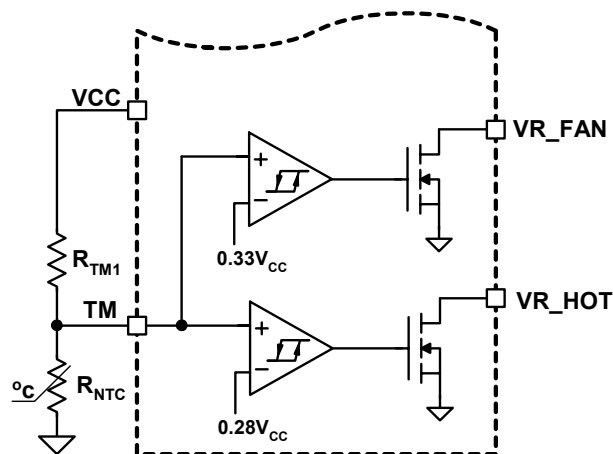
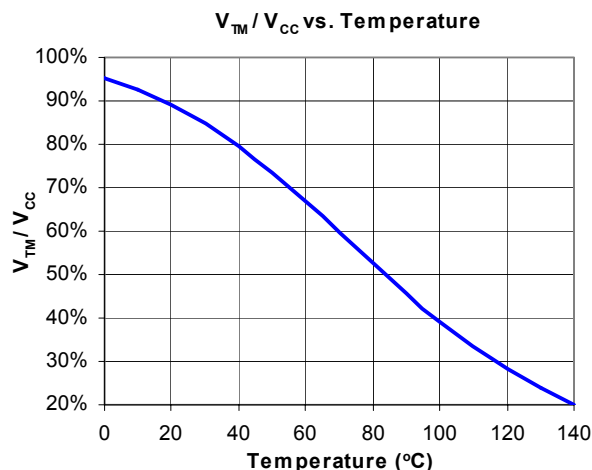

FIGURE 15. BLOCK DIAGRAM OF THERMAL MONITORING FUNCTION
FIGURE 16. THE RATIO OF TM VOLTAGE TO NTC TEMPERATURE WITH RECOMMENDED PARTS
The diagram of thermal monitoring function block is shown in Figure 15. One NTC resistor should be placed close to the power stage of the voltage regulator to sense the operational temperature, and one pull-up resistor is needed to form the voltage divider for TM pin. As the temperature of the power stage increases, the resistance of the NTC will reduce, resulting in the reduced voltage at TM pin. Figure 16 shows the TM voltage over the temperature for a typical design with a recommended 6.8k Ω NTC (P/N: NTHS0805N02N6801 from Vishay) and 1k Ω resistor RTM1. We recommend using those resistors for the accurate temperature compensation.
Based on V_{CC} voltage, ISL6307B converts the TM pin voltage to a 6-bit TM digital signal for temperature compensation. With the non-linear A/D converter of ISL6307B, TM digital signal is linearly proportional to the NTC temperature. For accurate temperature compensation, the ratio of the TM voltage to the NTC temperature of the practical design should be similar to that in Figure 16.
Depending on the location of the NTC and the air-flowing, the NTC may be cooler or hotter than the current sense component. TCOMP pin voltage can be utilized to correct the temperature difference between NTC and the current sense component. When a different NTC type or different voltage divider is used for the TM function, TCOMP voltage can also be used to compensate for the difference between the recommended TM voltage curve in Figure 16 and that of the actual design. According to the V_{CC} voltage, ISL6307B converts the TCOMP pin voltage to a 4-bit TCOMP digital signal as TCOMP factor N.
1. Properly choose the voltage divider for TM pin to match the TM voltage Vs temperature curve with the recommended curve in Figure 16.